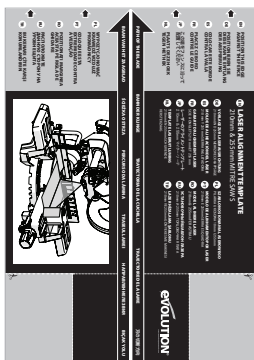

Fig. 8c
- Place the cardboard laser template (**Fig. 8c**) onto the rotary table.